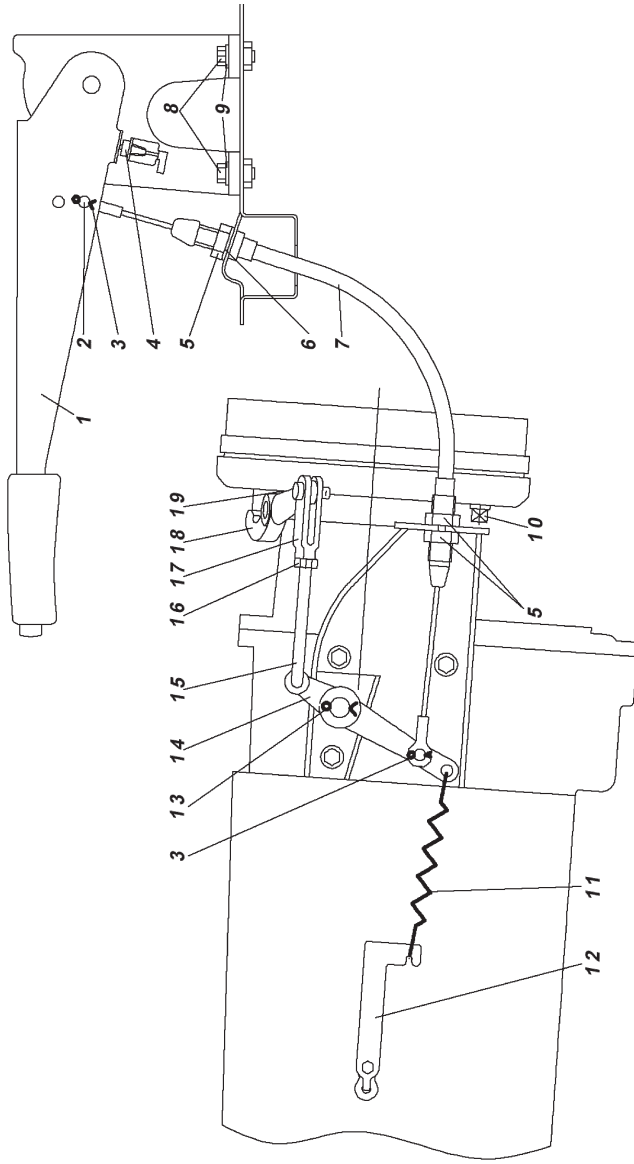

Fig. 9.39. Parking brake mechanism drive.
2. Lower parking brake lever 1 (fig. 9.39) into its extreme position.